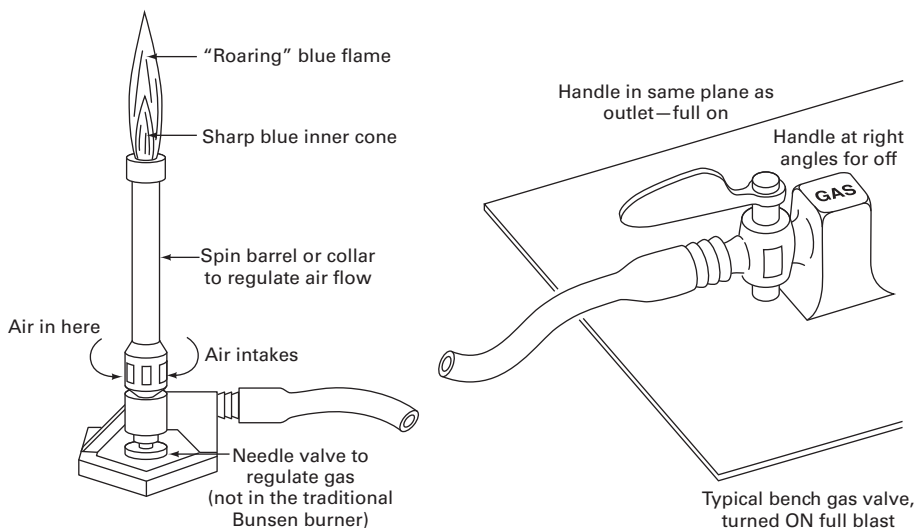

FIGURE 17.2 More than you care to know about burners.
1. Find the round knob that controls the **needle valve**. This is at the base of the burner. Turn it fully clockwise (inward) to stop the flow of gas completely. If your burner doesn't have a needle valve, it's a traditional Bunsen burner, and the gas flow has to be regulated at the bench stopcock (Fig. 17.2). This can be dangerous, especially if you have to reach over your apparatus and burner to turn off the gas. Try to get a different model.
3. Connect the burner to the bench stopcock by some tubing and turn the bench valve *full on*. The bench valve handle should be parallel to the outlet (Fig. 17.2).